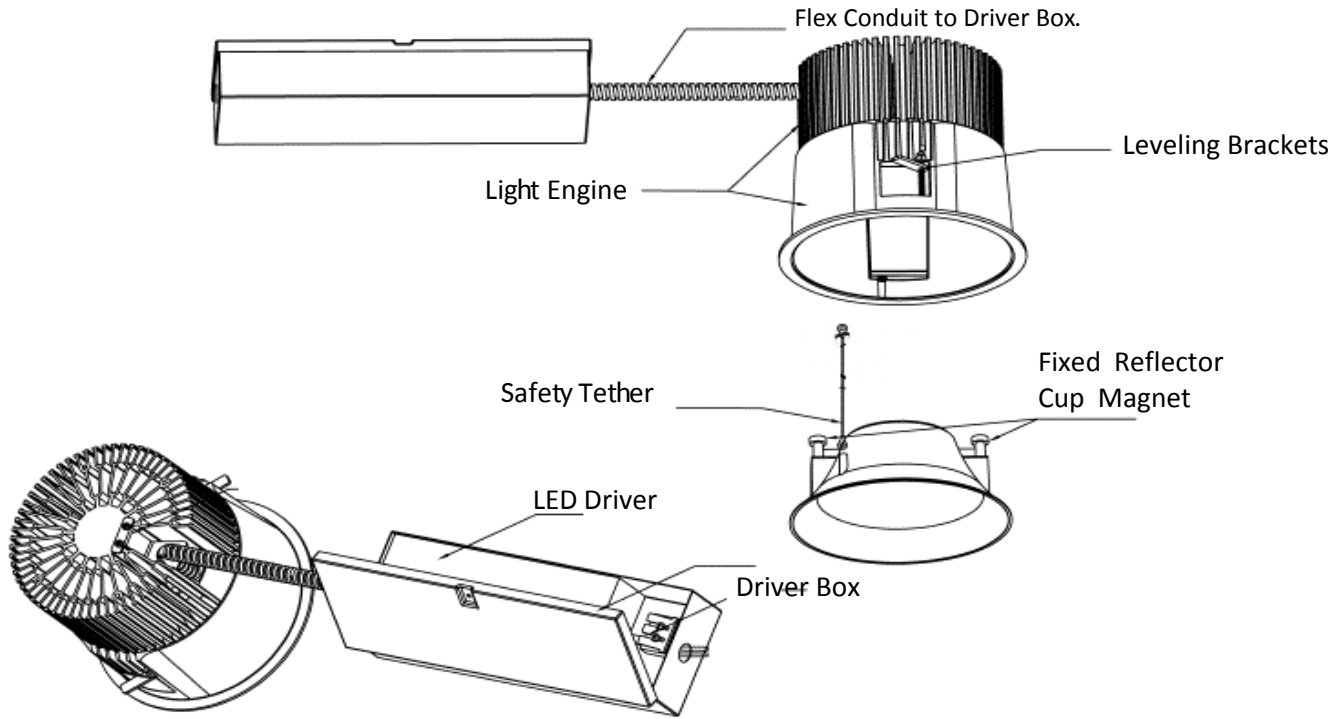

Fig: 4
- 4 After you are finished, then switch on the power. (Fig: 4)